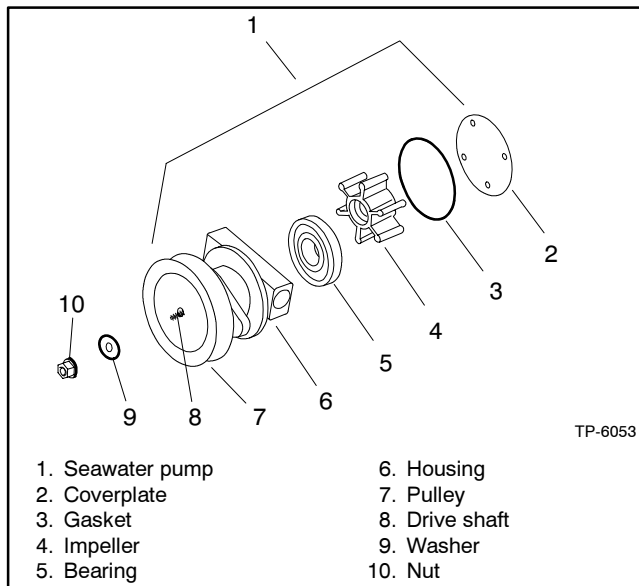

Figure 3-2 Seawater Pump, Typical
2. Remove the seawater pump coverplate. See Figure 3-2.